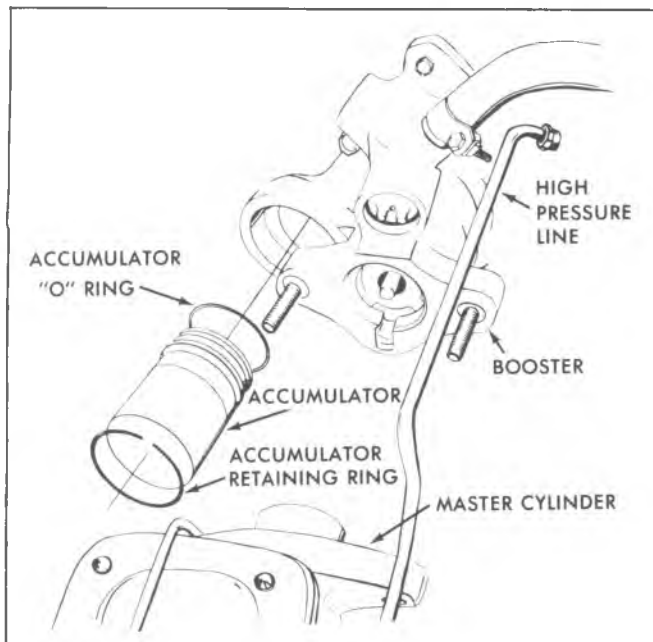

Fig. 5-7E—Accumulator Installation
16. Using clean power steering fluid, lubricate accumulator seal. Install seal and accumulator in housing and then place the retaining ring over the accumulator (fig. 5-7E). Place Tool J-26889 over accumulator.